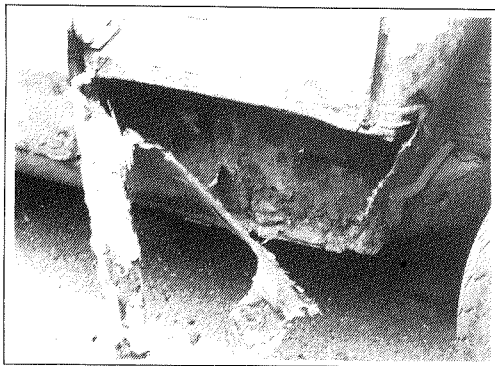
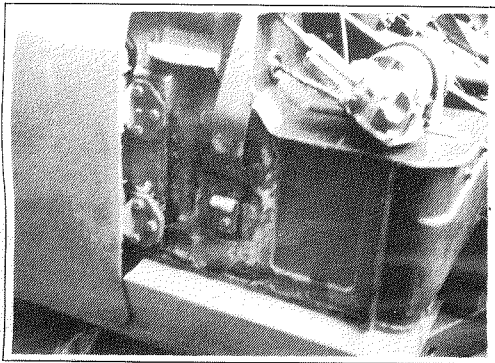

Figure 4. The extent of corrosion isn't revealed until the sill is removed.
Figure 5. Serious corrosion of the upper part of the A-post will lead to sagging doors and windscreen.
2. **A-Post.** The bottom of the A-post is probably one of the most rust prone areas on the Spitfire. Although visible from inside the car, the true extent of the corrosion is more easily seen and repaired with the outer sill removed (fig. 4, over), and should therefore be repaired before replacing the outer sill. Replacement of the complete A-post should not be necessary unless corrosion is so extensive as that shown in figure 5 (over). In this case great care and extensive measurements and bracing should be made before changing the complete A-post, otherwise it will affect the correct positioning of the door hinge mountings, windscreen and front bulkhead.